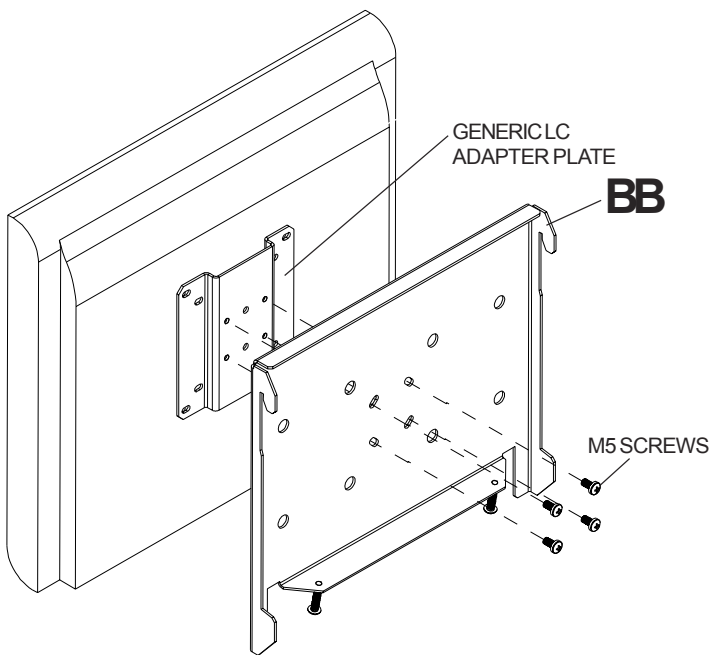

fig. 2.3
- 2** To prevent scratching the screen, set a cloth on a flat, level surface that will support the weight of the screen. Place screen face side down. Attach the interface bracket (**BB**) to the LC adapter plate (sold separately) using four M5 screws provided with plate as shown in figures 2.3 (portrait) or 2.4 (landscape).